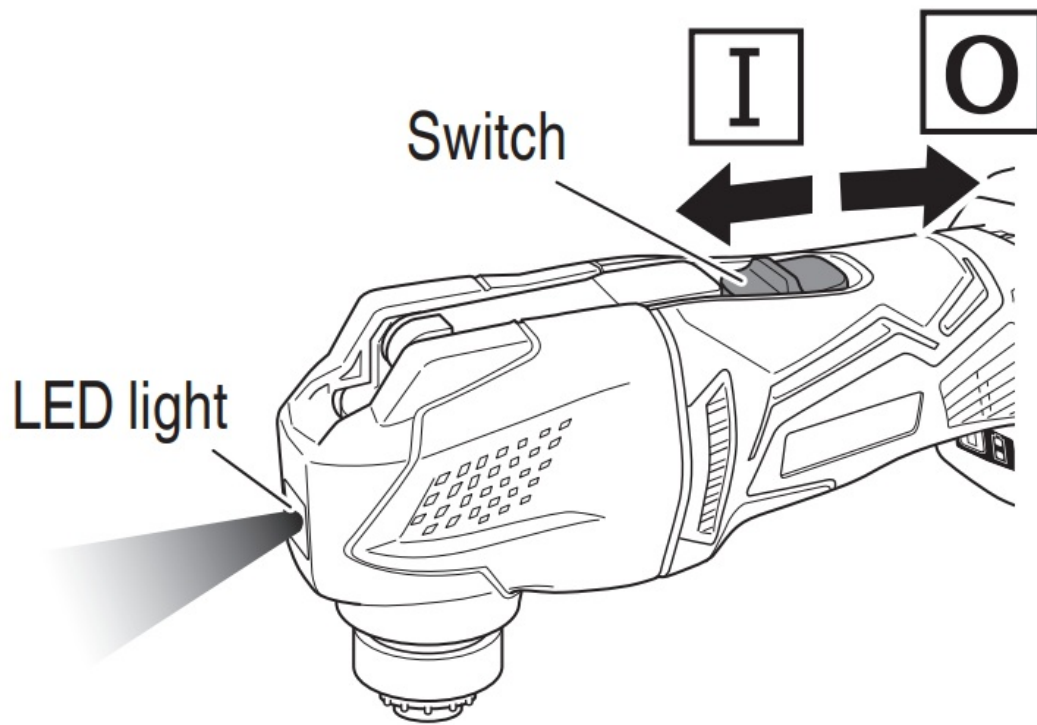

Fig. 8
6. Sliding the switch towards will switch on, simultaneously activating the LED light which will light the application tool. (Fig. 8) To turn the main unit off, slide the switch towards.